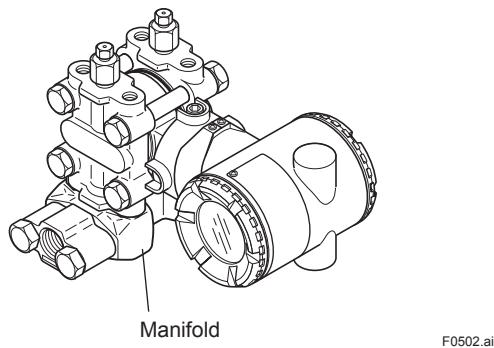

Figure 5.2 Manifold Location at the Downside (for Gas Flow Measurement)
- If the process fluid is a gas, then as a rule the manifold must be located at the downside of the pressure-sensing assembly. (Figure 5.2)